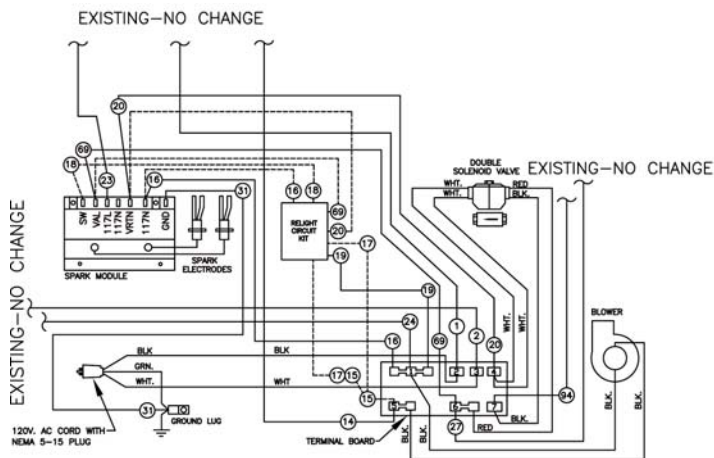
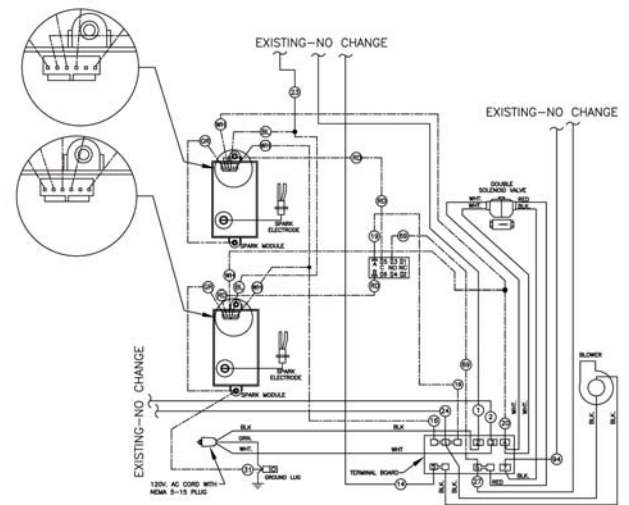

FIG 2. WIRING DIAGRAM FOR IFMS WITH DUAL-ELECTRODE SPARK IGNITION MODULE (PART # 019724) AND RELIGHT CIRCUIT KIT
FIG 3. WIRING DIAGRAM FOR IFMS WITH TWO SINGLE-ELECTRODE SPARK IGNITION MODULES (REPLACEMENT, PART # 037978) AND 120VAC DPDT RELAY (PART # 008088)
9. Make connections between the two modules by installing the supplied wire harness. Refer to Fig. 2 below for detailed wiring. Dashed lines in Fig. 2 show the removed and discarded wires. Dashed lines in Fig. 3 below show the added/rewired connections. Solid lines show unaltered wiring in both Fig. 2 and 3.